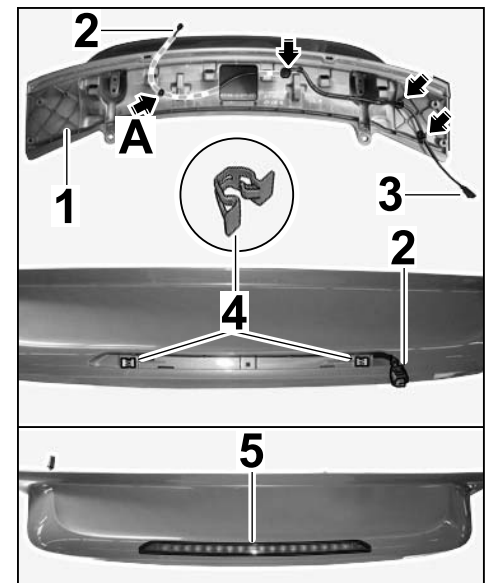

Figure 13
- 3.4.3 Guide connector for additional brake light (⇒ *Figure 13 -2-*) in the rear spoiler to the cut-out for the additional brake light.
Fit retaining clip for wire harness for additional brake light in the rear spoiler (1 x ⇒ *Figure 13 -A-*).
Route wire harness for additional brake light in the cable guide (underside of rear spoiler) and secure with three retaining clips (⇒ *Figure 13 -arrows-*).
3.4.4 Fit two clamps (8.0 x 10.2/2.0; ⇒ *Figure 13 -4-*) in the new rear spoiler.
Install additional brake light on new rear spoiler (⇒ *Figure 13 -5-*, ⇒ *Workshop Manual '947019 Removing and installing additional brake light'*).